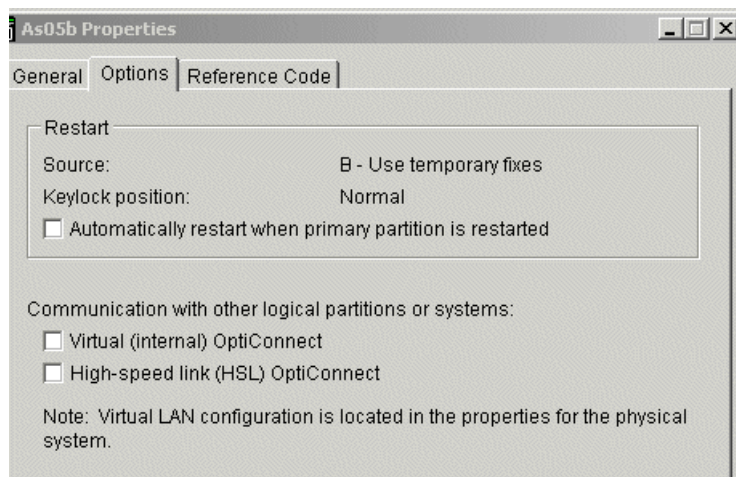

Figure 6-37 System Properties
- e. Select the **Options** tab (Figure 6-37).